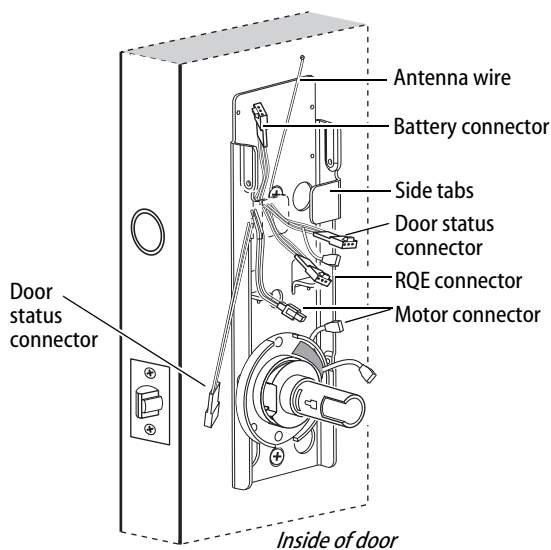

Figure 14 Routing the wires on the fire plate
- 1 Route the motor connector wire, RQE connector, and door status connector underneath the side tabs as shown in Figure 14.